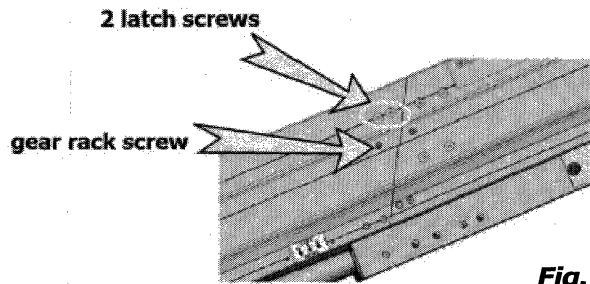

Fig. 6
7. Loosen screws holding short rail latch and gear rack in place. (Fig. 6).